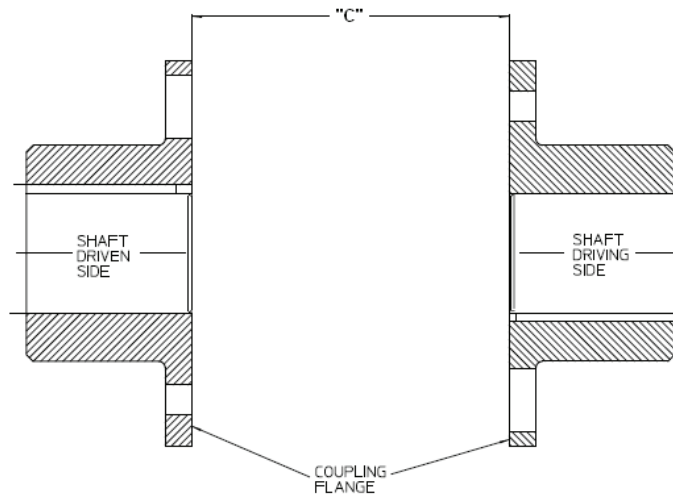

Figure 9 - Mounting Hubs on Shafts
- 9.1. Verify that the hubs have been mounted to provide the correct “C” dimension shown in Figure 9 and defined in Table 1. The “C” dimension is the distance measured between the faces of the two mounted hub flanges.